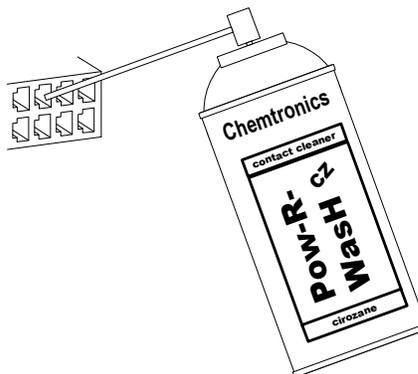

Figure 1
3. **Clean** each terminal using Chemtronics® contact cleaner "Pow-R-WasH CZ" as shown in Figure 1.